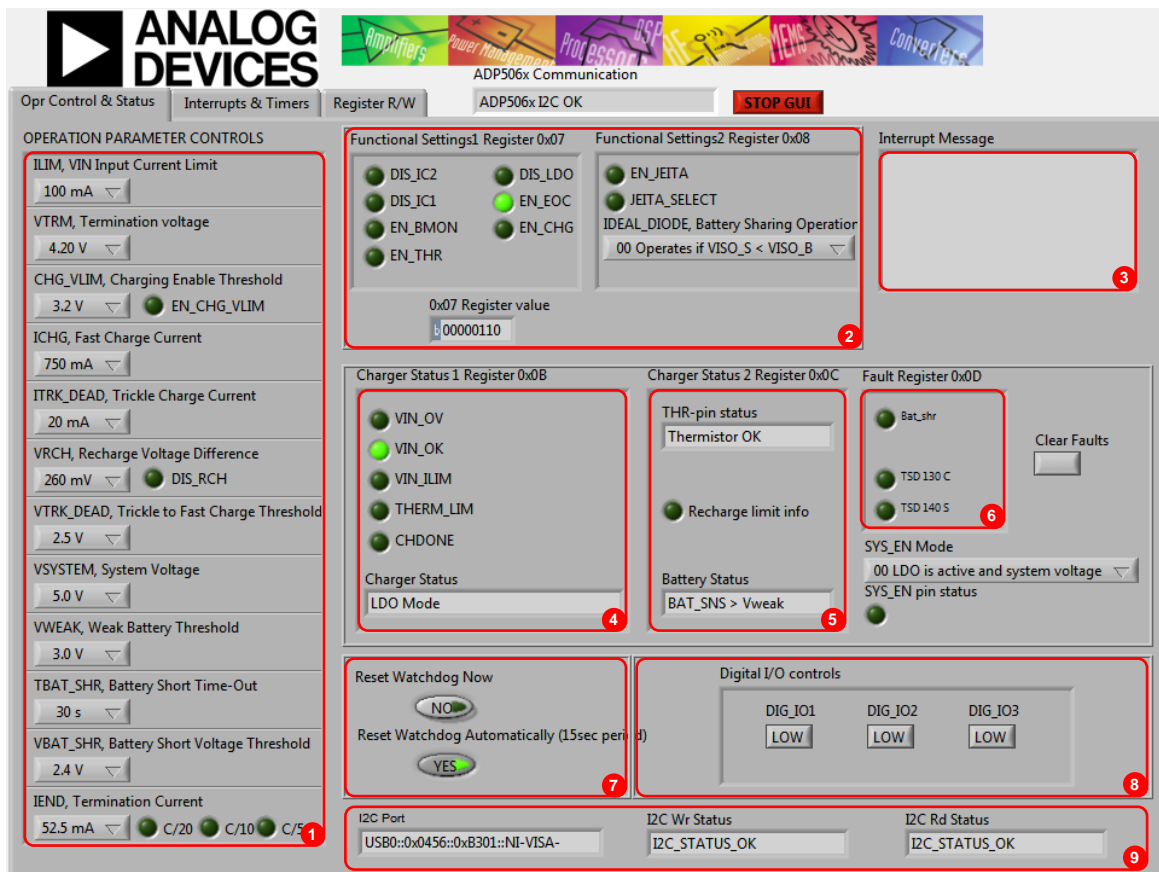
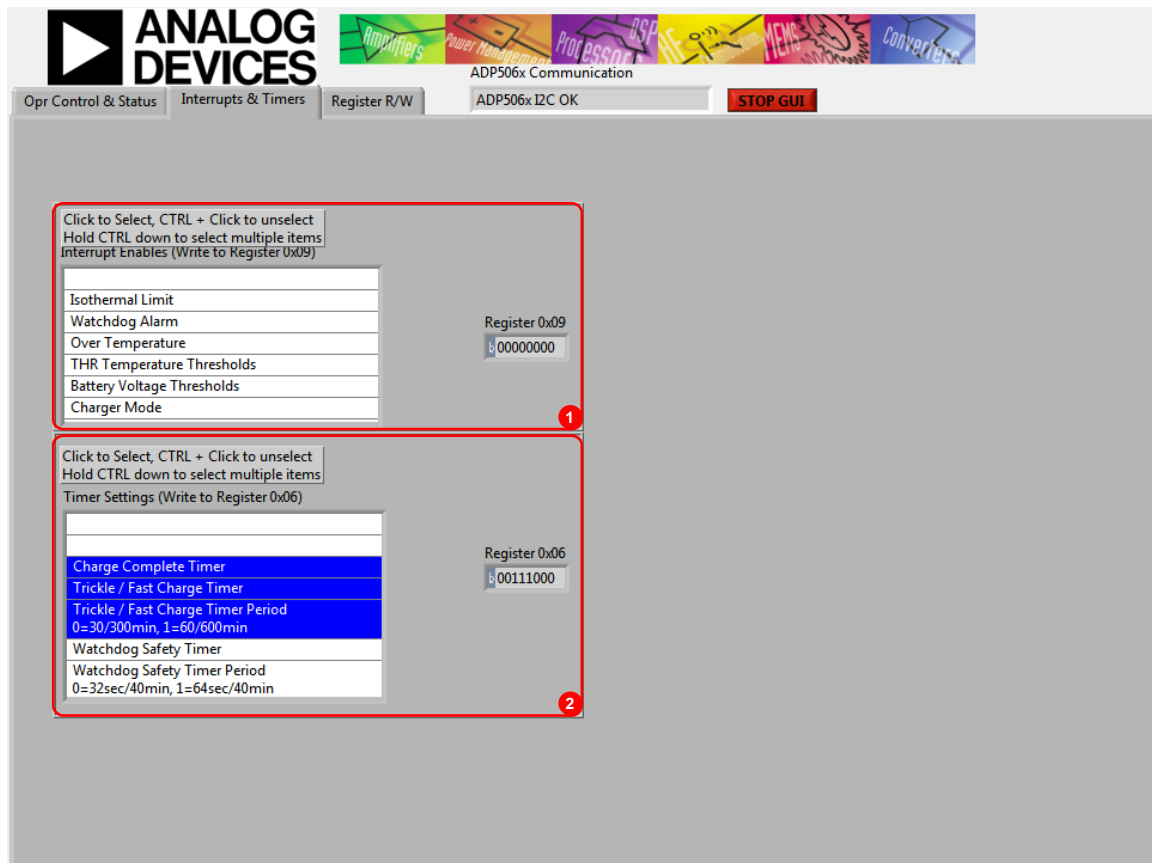

Figure 2. ADP5061 GUI Operation Control and Status Tab
Figure 3. ADP5061 Evaluation Software GUI, **Interrupts & Timers** Tab
The following are the GUI operation controls and status tools (see Figure 2):
VIN must be above 2.5 V in order for the I²C communication of the ADP5061 to start working. The VIN voltage level is monitored, and the indicators are shown in the charger status indicators (see Number 4 in Figure 2). The GUI automatically reads the content of the registers after every 0.3 seconds from the last action and updates the status of the registers on screen.
If there is a problem in the I²C communication, the status indicators show an error message (see Number 9 in Figure 2). When I²C communication is operational, status indicators show I2C_STATUS_OK (see Figure 2).
The **Interrupts & Timers** tab (see Figure 3) in the GUI controls the register settings. Register 0x0A is automatically read after every 0.3 second timeout from the last user action involving the GUI. When a certain interrupt is enabled, and there is a status change in the corresponding function during charging, an interrupt message is shown in the **Opr Control & Status** tab (see Number 3 in Figure 2).
The default settings of the timers are shown in Figure 3. Changing the timer settings can be done by clicking items in the **Timer Settings (Write to Register 0x06)** box.
- The **Battery Status** indicator on the GUI must show **BAT_SNS > Vweak** (see Figure 2).
4. Disable charge complete timer register, Register 0x06, using the GUI (see Figure 3).